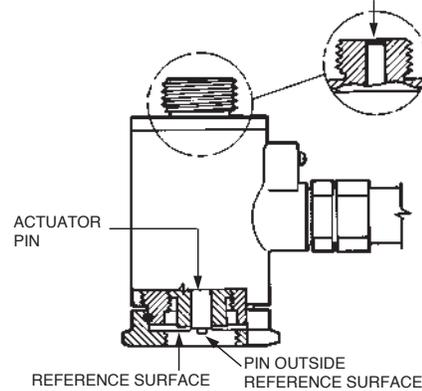

FIGURE 8-12
- b. The actuator is in the fired position if the following conditions exist: See Figure 8-12.